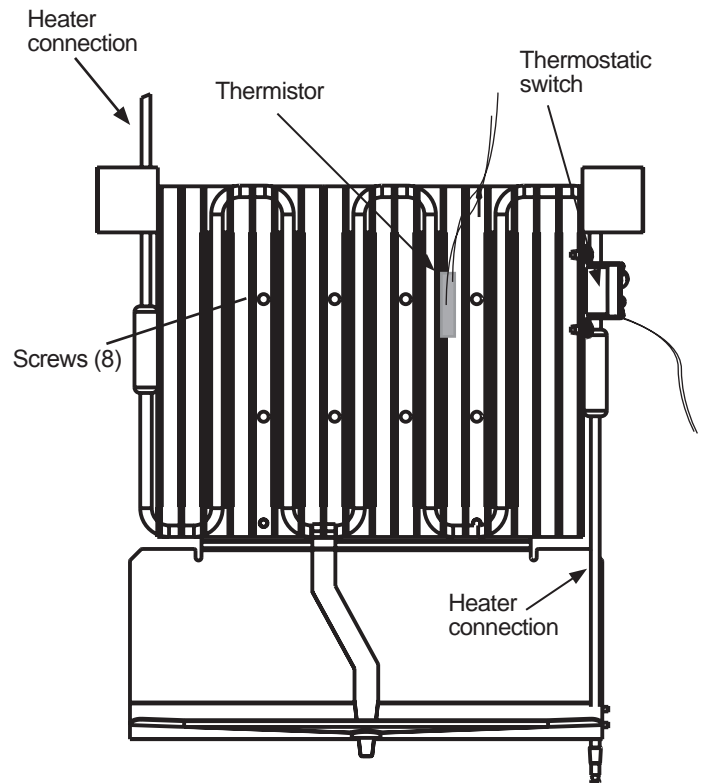

Figure 7-5. —Freezer fin assembly.
4. Disconnect the freezer defrost heater from circuit. See Figure 7-5.
5. Disconnect the freezer thermostatic switch from circuit. See Figure 7-5.
6. Disconnect the freezer fin thermistor. See Figure 7-5.